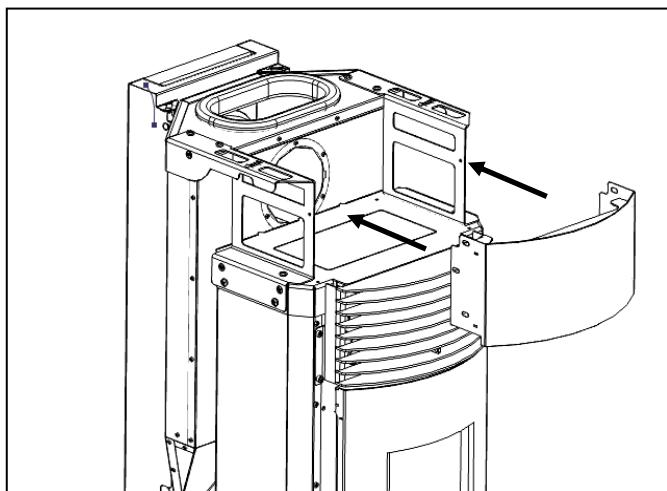

Figure 75 – Front grille assembly
b) Place the upper front as shown in Figure 75, positioning the flaps of the front part on the inner face of the structure.
d) Then to engage the side covers, you must first fold the tab as shown in Figure 75 to ensure that it is at an angle of less than 90°.